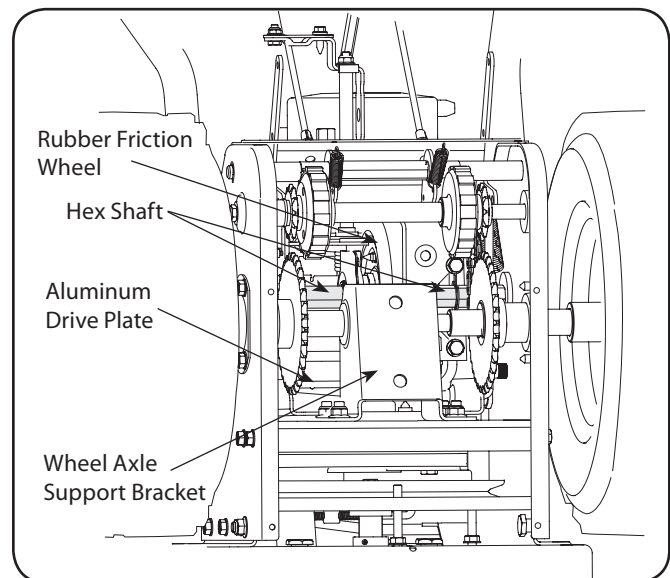

Figure 6-2
3. Apply a light coating of engine oil (or 3-in-1 oil) to the hex shaft. See Figure 6-2.